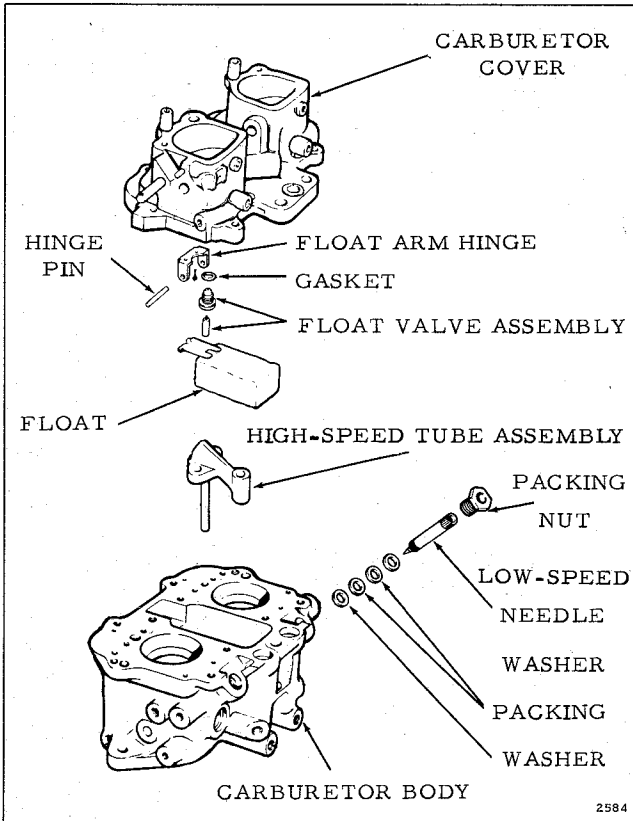

Figure 3-11. Carburetor Assembly
a. Separate the carburetor cover from the carburetor body by removing eight screws. See Figure 3-11.
b. Remove nylon hinge pin to permit removal of float and float arm assembly. Remove float valve, float valve seat, and gasket assembly from carburetor cover. See Figure 3-11.
b. Install new packing and packing washers in sequence shown in Figure 3-11. Install the low-speed needles, turning in carefully with finger pressure (use one of the adjusting knobs for this operation) until it comes lightly against the seat, then back off 1-1/4 turns. CAUTION should be taken to prevent jamming the needles against the seats.